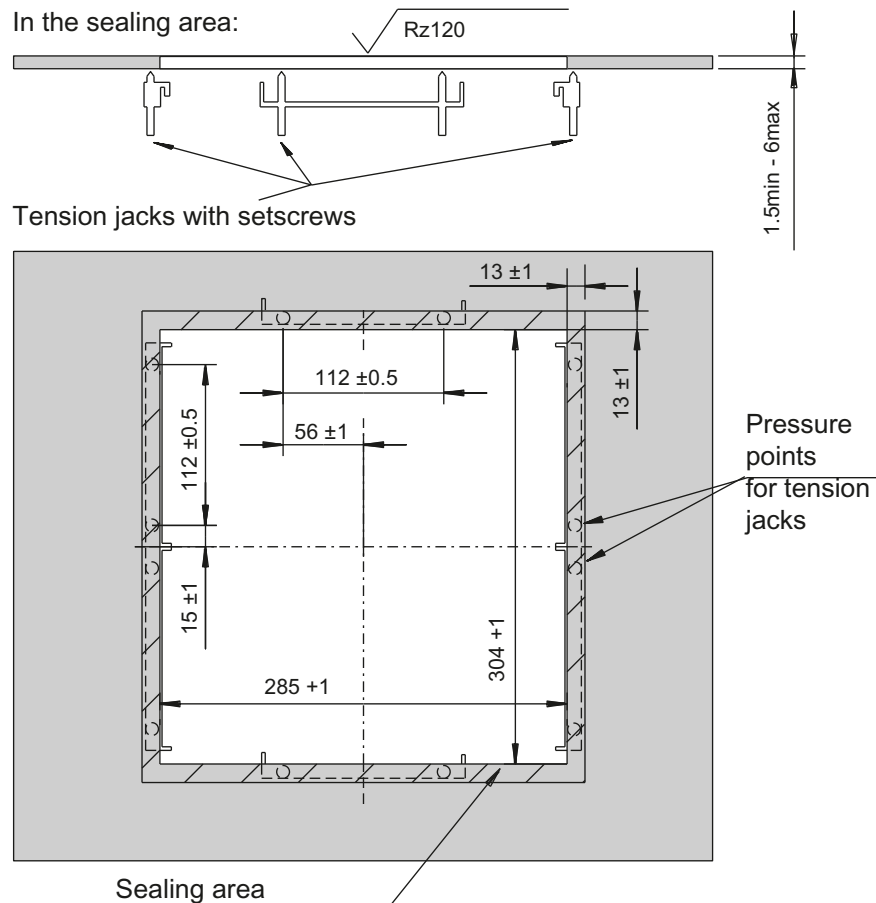

Figure 3-3 Dimension sheet for installing the OP 010S operator panel front
2. Use six tension jacks to secure it in the panel cutout from the rear (see Figure 3-3 Dimension sheet for installing the OP 010S operator panel front (Page 49)).